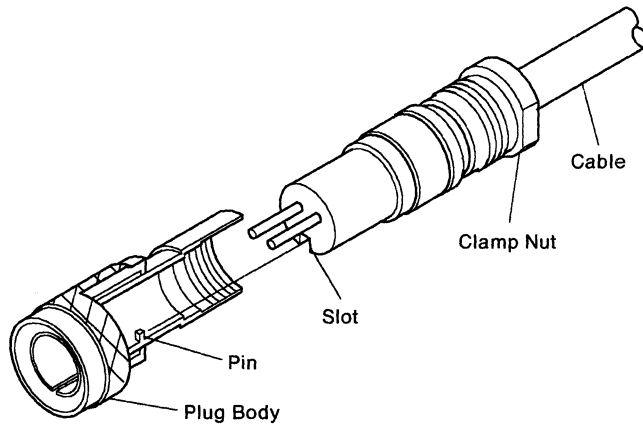

Figure 20. Assembly
- Insert the assembly into the connector body, aligning the polarizing slot in the insulator with the polarizing pin inside the plug body as shown in Figure 20. Tighten the clamp nut with 5.7 to 6.8 Newton meters (N.m) (50 to 60 inch-lb) torque. Do not allow the cable and plug body to twist as the clamp nut is tightened.